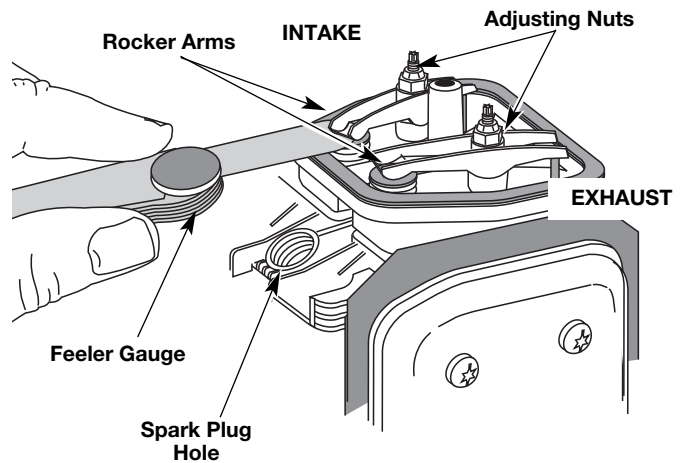

Fig. 32
- The piston is at the top of its travel while looking in the spark plug hole (Fig. 32)
7. Slide the feeler gauge between the rocker arm and the valve return spring. Measure the clearance between the valve stem and rocker arm (Fig. 32 & 33). Measure both the intake and exhaust valves.